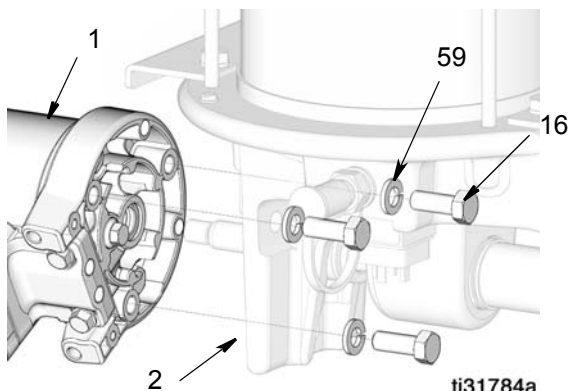

FIG. 32
1. Align air motor (1) in pump base (2). Align pin hole in air motor with pin hole in shovel rod (12).
2. Install three washers (59) and screws (16). Torque to 5 to 10 ft.-lbs (6.77 to 13.56 N•m) (FIG. 32).